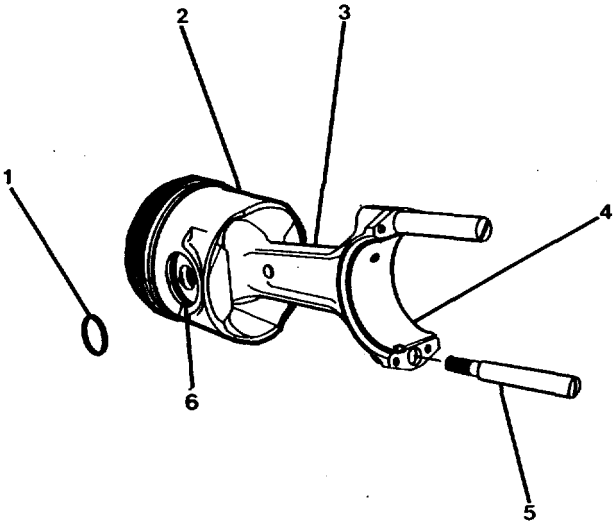

FIGURE 3-25. Piston and Connecting Rod Assembly.
- (6) Remove the connecting rod and piston assembly.
- (7) Remove connecting rod guide pins (7) and upper rod bearings (4, FIG. 3-25).
- (1) Install one retaining ring (6, FIG. 3-25).
- (10) Push piston into liner until the connecting rod touches the crank shaft journal. Remove the connecting rod guide pins (5, FIG. 3-25).